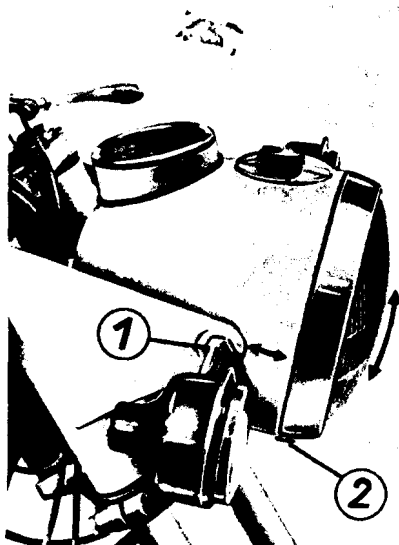

Fig. 109. TS-headlamp focusing
In the TS 125 and 150, loosen screw (2) (Fig. 109) and remove the front ring with reflector.